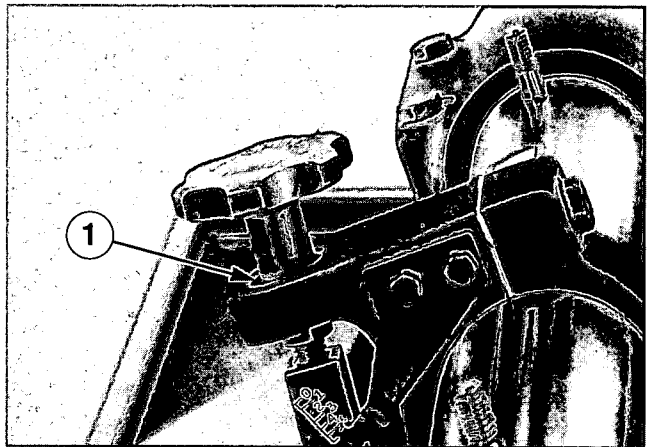

Figure 21 — Lubricate slice adjustment bearing (1).
The machine has a total of seven (7) grease fittings (Figure 20). Lubricate the fittings until grease comes out from around bearings and thrust washers. Lubricate slice adjustment bearing with a drop of oil immediately after machine has been cleaned (Figure 21).